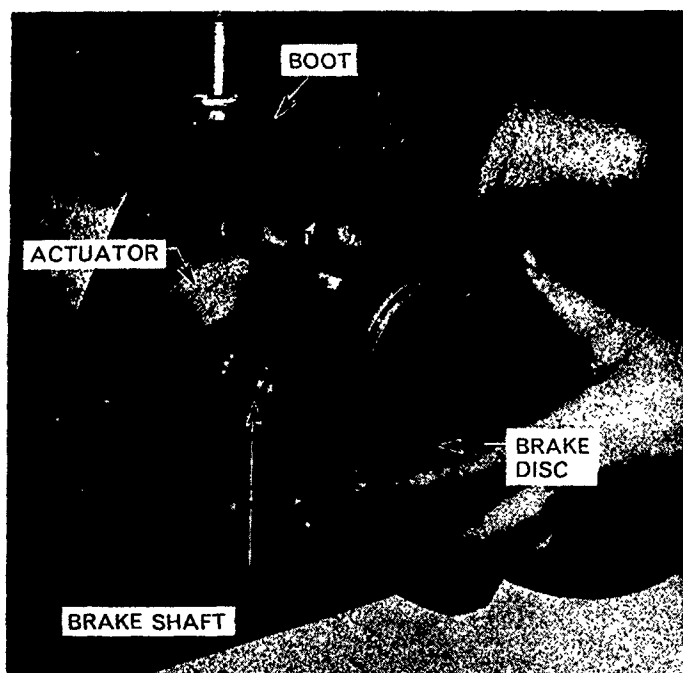

Figure 36
4. Remove the outer friction disc, actuating plate assembly (with rubber boot) and inner friction disc, Figure 36.